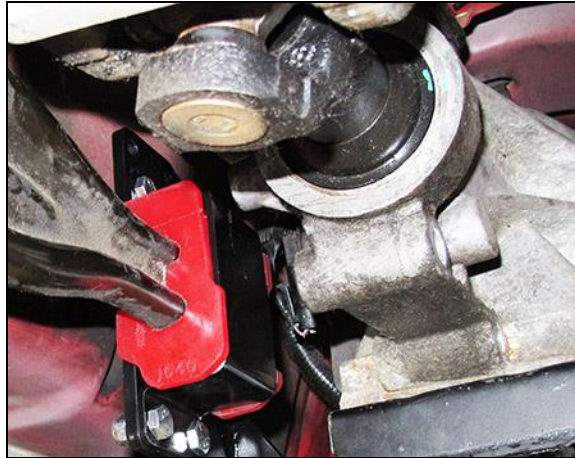

Figure 4
10. Apply a light spray of penetrating oil to the end of the torque arm. Install the Energy Suspension bushing onto the torque arm, as depicted in **Figure 4**, if your torque arm is formed with its flanged edges facing towards the outside of the car. If your torque arm is formed with its flanged edges facing the transmission, flip the bushing over so it's internal profile corresponds with the orientation of the shape on the tip of the torque arm and install the bushing. Place the included saddle bracket over the bushing and attach it to the corresponding holes/slots in the crossmember with the included 5/16 nuts and bolts. The lowest row of holes approximates the stock mounting position of the torque arm. Moving the mount higher will raise the instant center of the rear suspension for increased anti-squat characteristics.